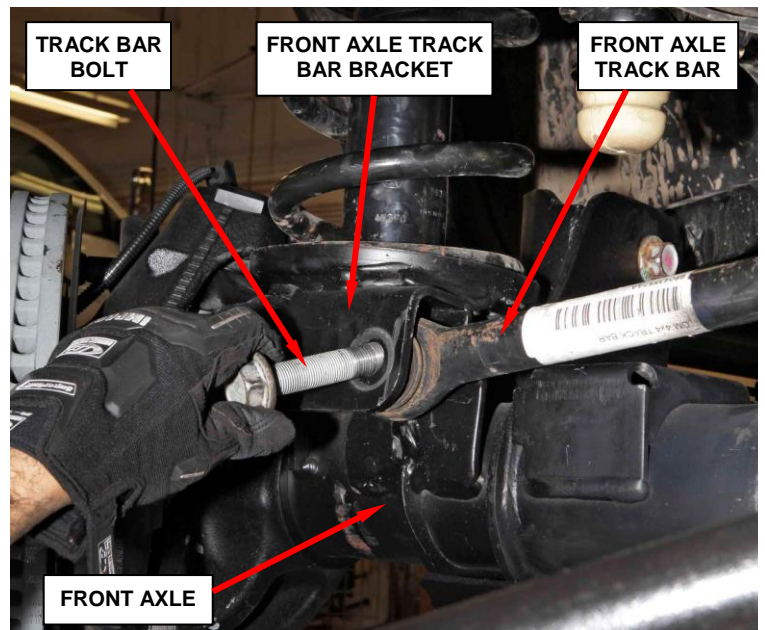

Figure 31 – Track Bar-to-Axle Bracket Bolt
23. Install the track bar-to-axle bracket bolt. Do not tighten at this time (Figure 31).